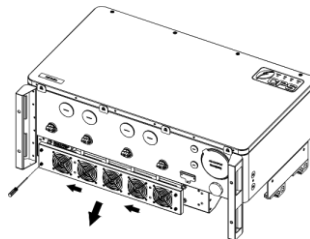

Figure 8-1 Remove Fan Tray and Fan
If the internal temperature of the inverter is too high or the inverter is making an abnormal noise, check if the air vent is blocked or dirty. If the air vent is clean and not blocked, it may be necessary to replace the external fans; see Figure 8-1 for replacing the cooling fans.
1. Use a no. 2 Phillips head screwdriver to remove the eight (8) screws on the fan tray (Figure 8-1):